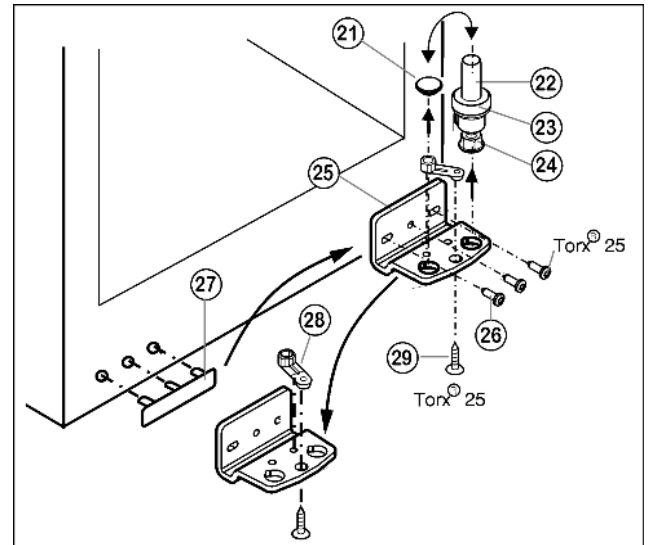

Fig. 5
- ▶ Lift out the bearing pin Fig. 5 (22) together with washer Fig. 5 (23) and adjustable-height foot Fig. 5 (24).
- ▶ Lift off the stopper Fig. 5 (21).
- ▶ Unscrew Fig. 5 (26) the turn hinge Fig. 5 (25).
- ▶ Unscrew Fig. 5 (29) the bearing element Fig. 5 (28), transfer it to the opposite location hole of the turn hinge and screw it firmly into place.
- ▶ Carefully lift off the cover on the handle side Fig. 5 (27) and transfer it to the opposite side.
- ▶ Screw the turn hinge Fig. 5 (25) firmly into place on the new hinge side, possibly using a cordless screwdriver (**with 4 Nm**).
- ▶ Re-insert the stopper Fig. 5 (21) into the other hole.
- ▶ Re-insert the bearing pin Fig. 5 (22) together with the washer and adjustable-height foot. In so doing, pay attention that the locating lug points backwards
- ▶ Place the door from above onto the lower bearing pin *Fig. 5 (22)*.
- ▶ Align the door to the appliance housing by way of the two oblong holes in the bottom turn hinge *Fig. 5 (25)*. To do so, unscrew the middle screw.